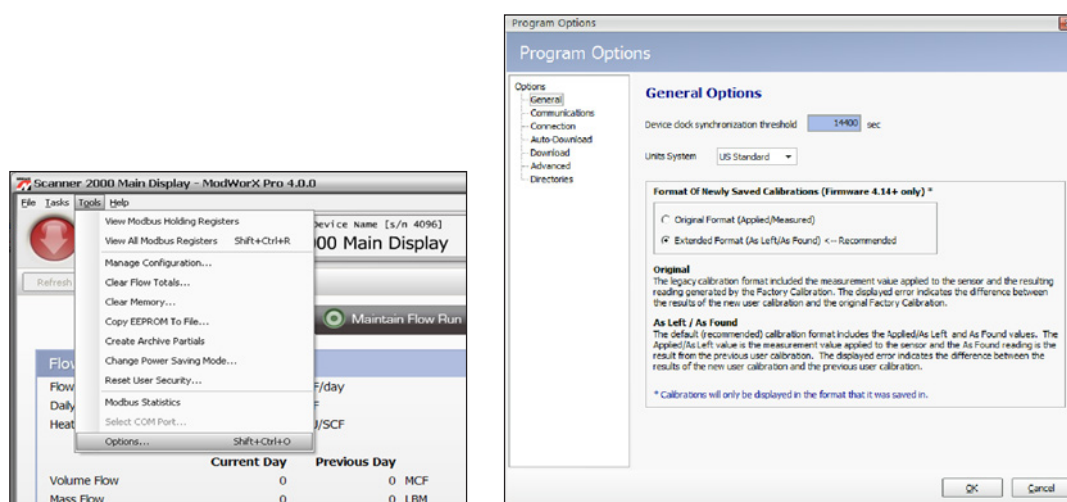

Figure A.16
1. Click **Tools>Options** in the task bar. The General Options dialog will appear (Figure A.16).